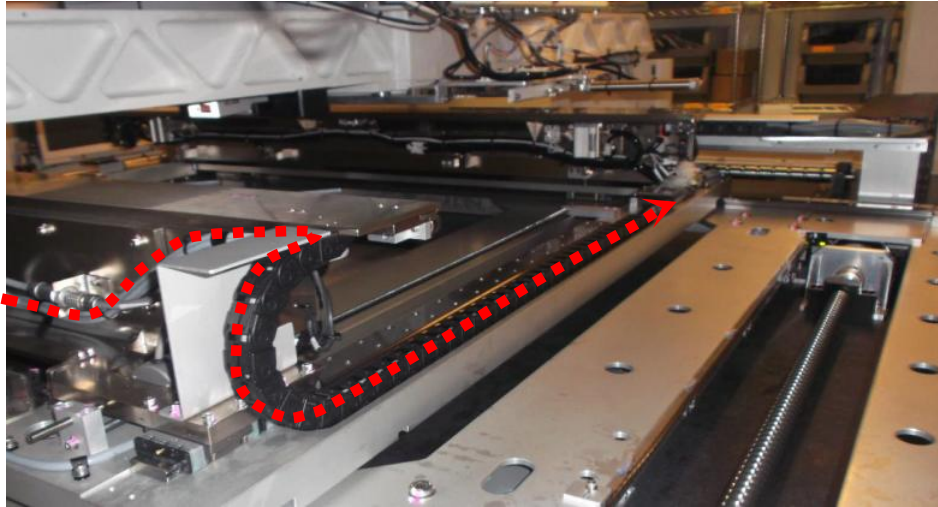

Figure 10 Stepper Motor Cable Removal (AWA E-Chain)
14. Remove 4JASC-A078 from AWA E-Chain as below Figure 10